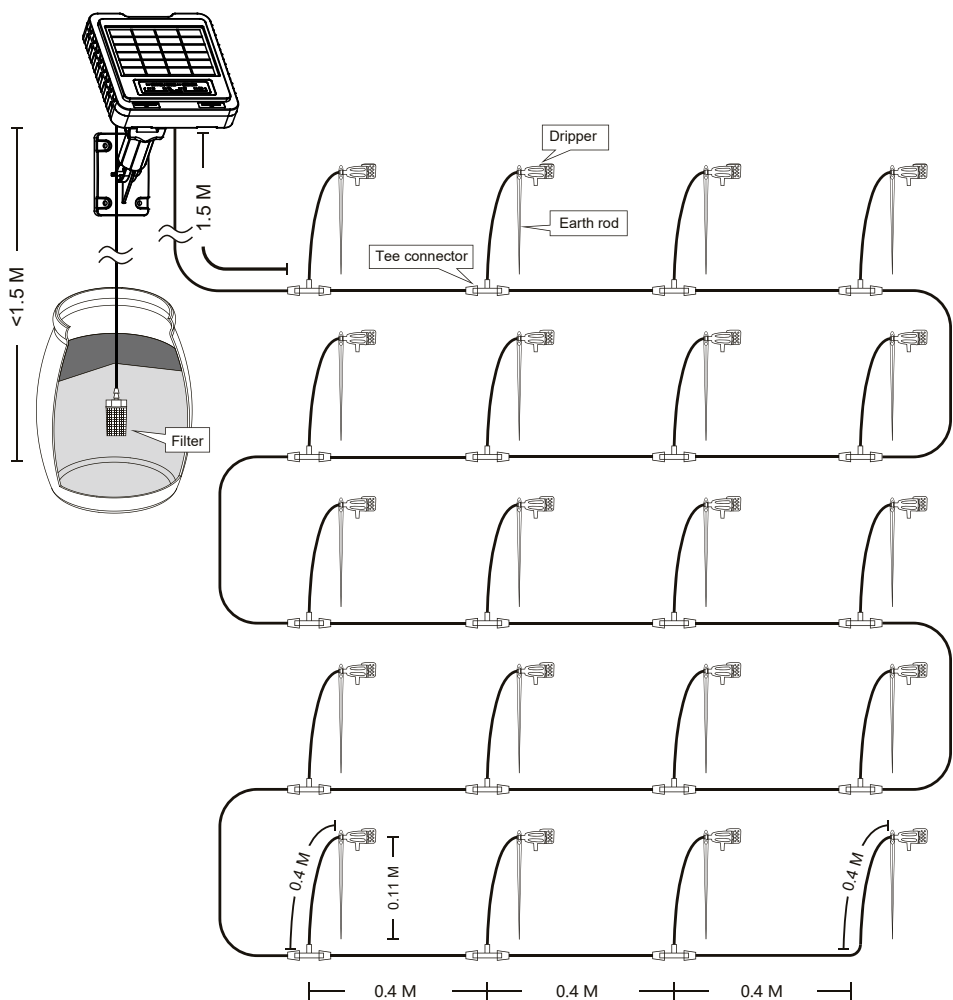
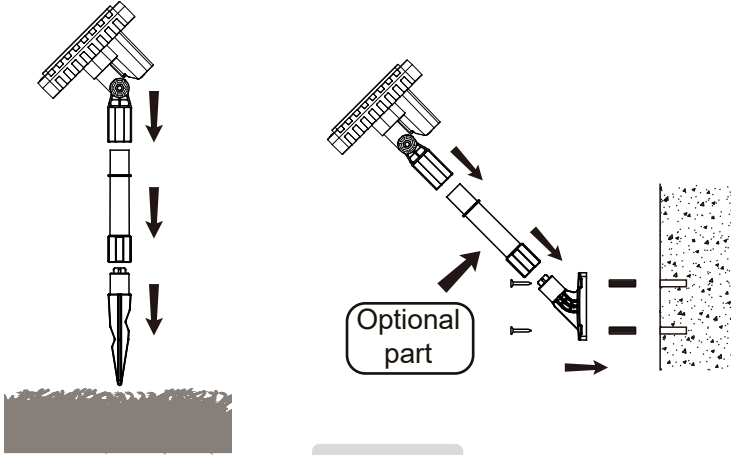

Figure 1:Recommended system installation schematic
Figure 2
- 2) Find a sunny place that is shadow-free all day long for the placement of the solar irrigator unit. It can be installed on a wall or fence by the enclosed bracket or even on the ground by the enclosed ground spike as shown in **Figure 2**. The water inlet on the back of the irrigator unit should be significantly higher than the maximum possible water level of the water reservoir but no more than 1.5 meters higher than the bottom of the water reservoir (referring to **Figure 1**: Recommended system installation schematic). The location should be able to avoid the irrigator unit to get dipped into water when raining.
- 7) By accessing water from the outlet on the back of the irrigator unit, construct the water supply line with the water hose and tee connectors as per the layout of the plants as shown in **Figure 1**. Make sure the hose is fitted onto the water outlet firmly to sustain water pressure. Regularly, each plant needs one tee connector for water access, if possible, place the tee connectors near the plants for easier water access. The last tee connector can serve two plants.
- 8) Install drippers near the plants to be watered with the help of earth rods as shown in **Figure 1**. The flow rate of the dripper can be adjusted by the knob on its top to cater the need of the plant it irrigates.